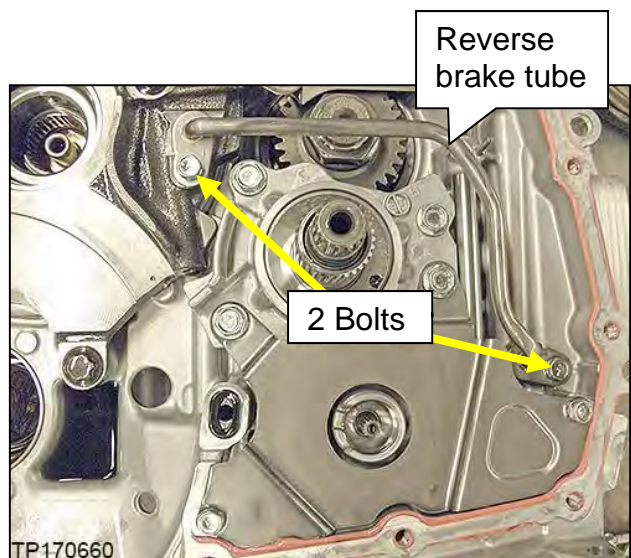

Figure 76
54. Remove the two (2) bolts shown in Figure 76, and then remove the reverse brake tube from the CVT.